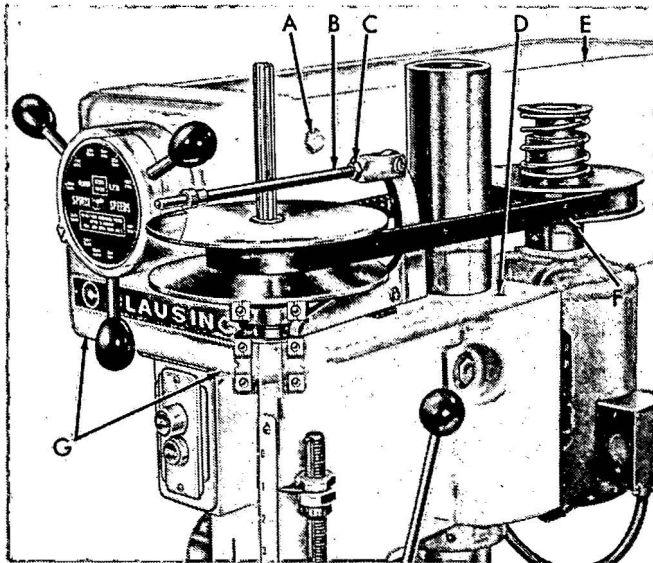

Figure 5
3. Remove cap screws (A & D, fig. 5) and slide guard (E) off rear of machine.
4. Remove cap screws (G) from spindle pulley guard.